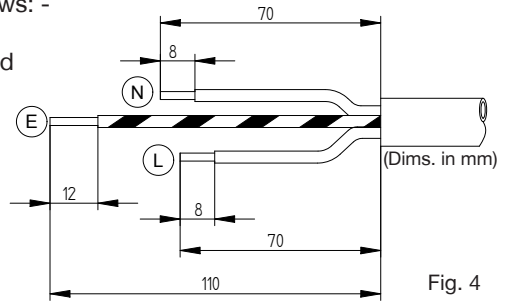

Fig. 4
2. Strip and prepare the cable sheath and insulators as shown in Fig. 4.